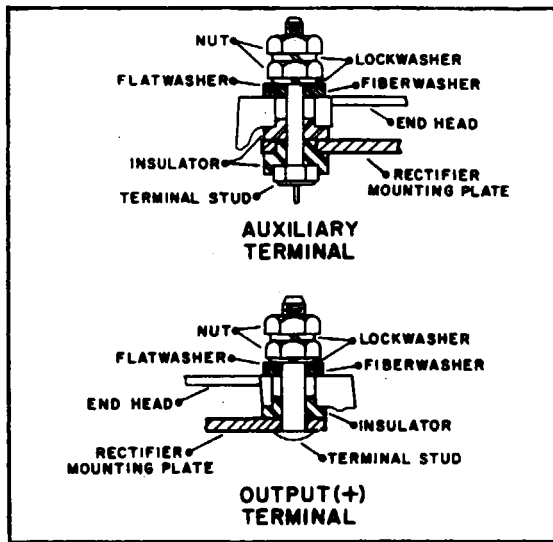

Figure 11-44. Terminal Assembly
- c. Reassemble the rectifier mounting plate studs and insulators, making sure they are in the correct order. (Refer to Figure 11-44.)